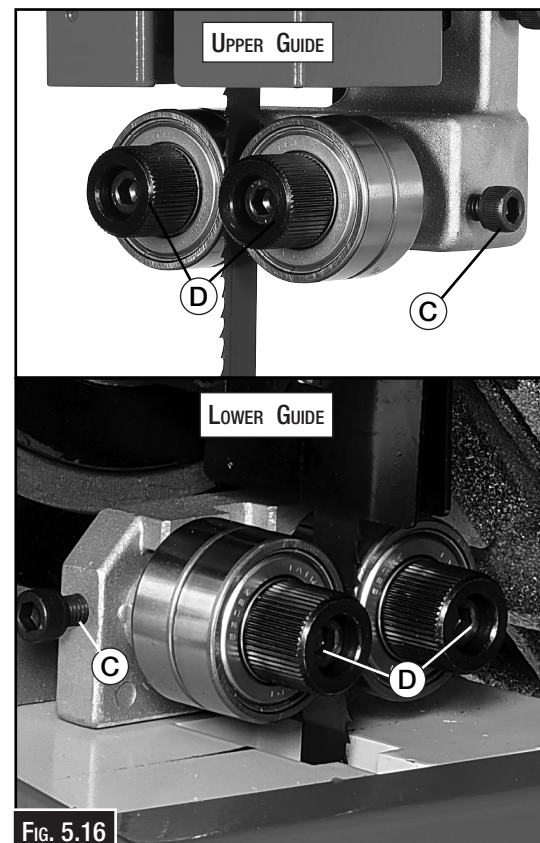

Fig. 5.16
3. Familiarize yourself with the blade guide controls shown in Fig. 5.16.
4. Undo the socket head cap screw of the blade guide bearings. (C in Fig. 5.16)
5. Using a feeler gauge rotate the bearings until 0.1mm away from the blade. (D in Fig. 5.16)